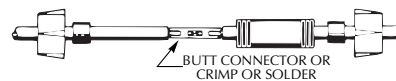

FIGURE 11
6. Insert wire end into butt connector and crimp (see Figure 11). **Be sure** to match cable and motor wire colors.